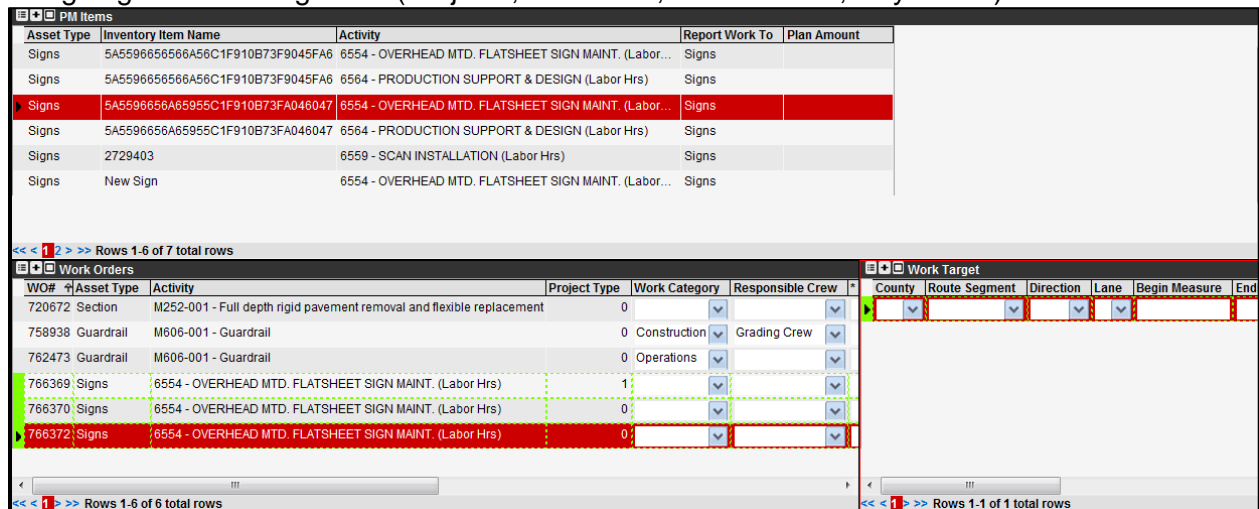

Figure 5-14. Issue ~ PM Items – Work Orders / Work Target Panes
TIP! When the dialog box closes, a new Work Order record appears in the Work Orders pane (lower-left) of the window (Figure 5-14). It has a Pending status. The PM Item's asset Inventory Item appears in the Work Target pane.
7. Perform editing in the Work Orders pane (lower-left) of the window (Figure 5-14), as follows: